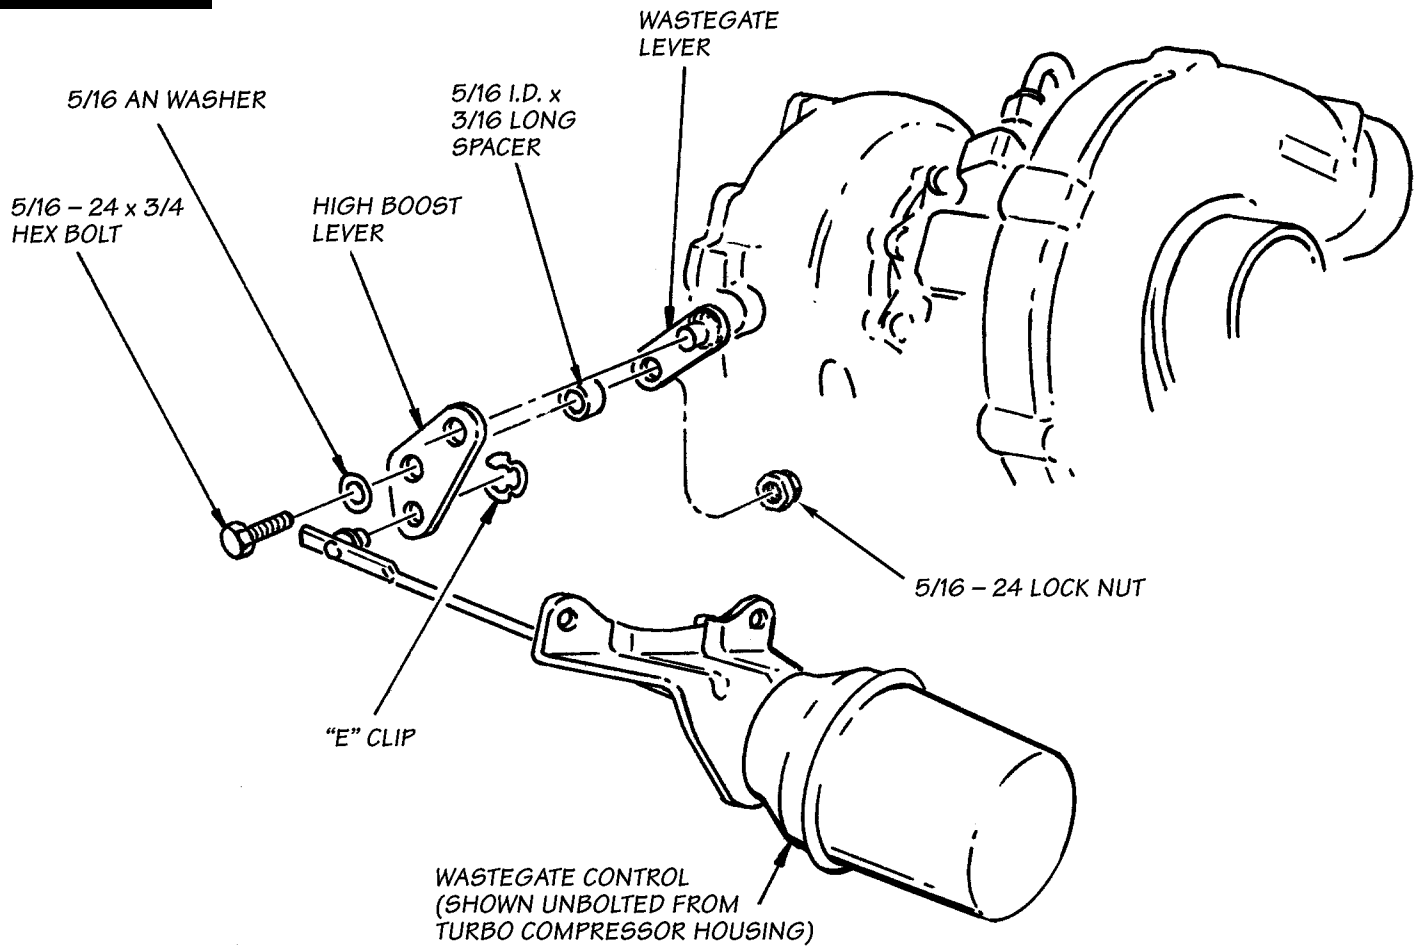

FIGURE 3
11. Measure and mark the air inlet casting as shown in Figure 3. Centerpunch this location and drill through the casting wall with a letter "R" drill (.399 dia.), then tap the hole with a $1/8$ NPT tap. Clean all chips from inside the casting.